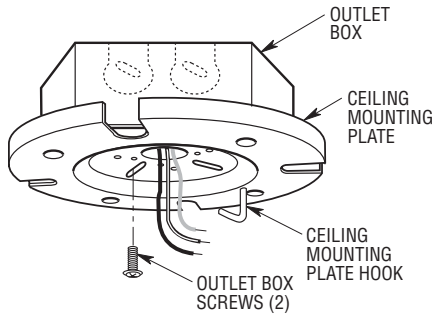

Figure 6
- 2. Pull the electrical supply black, white and ground wires through the center opening of the ceiling mounting plate before securing the plate to the outlet box (Figure 6).
- 3. Position the ceiling mounting plate onto the outlet box and secure using the two outlet box screws, supplied with outlet box (Figure 6).